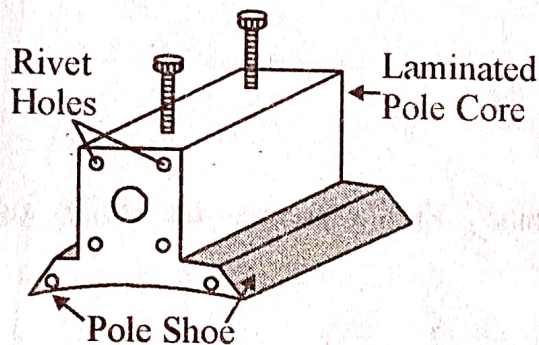

Fig. 5.6 Pole core and pole shoes
2. **Field System:** It is basically a system of electromagnets which is excited by dc supply. The field system produces the working flux of the machine. It is the stationary part of the machine and is bolted to the frame of the machine. For large dc machine, field system consists of pole core, pole shoes and pole (Field) winding as shown in fig. 5.6.